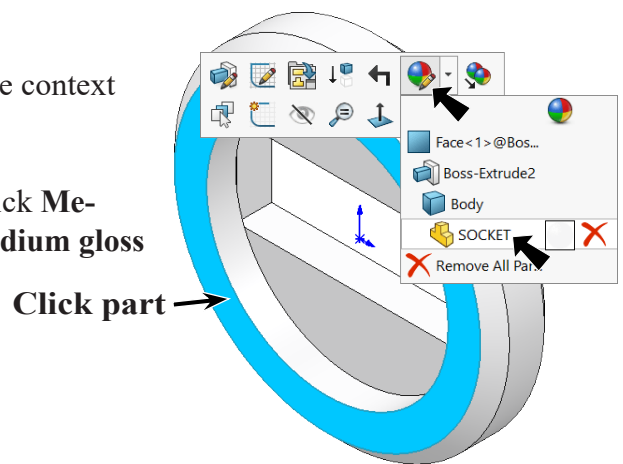

Fig. 19
Step 1. Click part, click **Appearance Callout**  on the context toolbar and click **SOCKET** , Fig. 19.